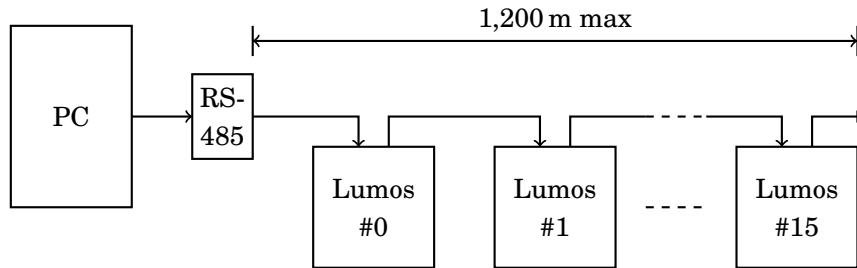

Figure 4.1: Network Connection Diagram
The standard configuration for Lumos controllers is a “daisy chain” of up to 16 of them on an RS-485 serial line. One end of the chain is connected to a PC via an RS-485 converter. A diagram of the RS-485 connection is shown in Figure 4.1.
**Daisy Chain:** The arrangement of wiring a number of devices together by connecting the first to the second, then adding another connection from the second to the third, and so forth. The network connection diagram in Figure 4.1 shows an example of a daisy chain.